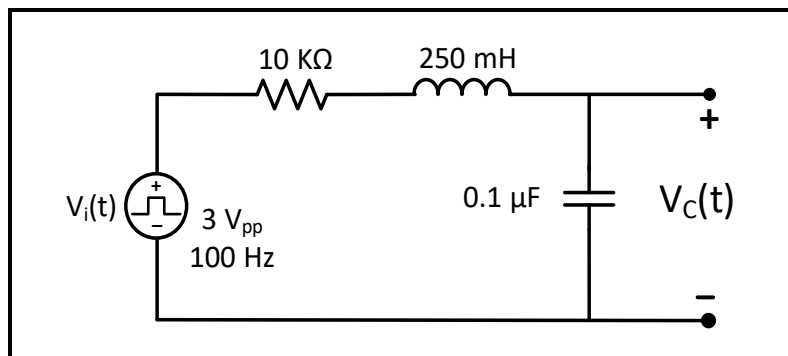

Figure 6.5
For the circuit of Figure 6.5:
1. Connect the circuit shown in Figure 6.5, with the function generator set to produce a square wave of: 3 V_{pp}, f = 100 Hz, and DC offset 1.5 V (**Use decade box for R**)